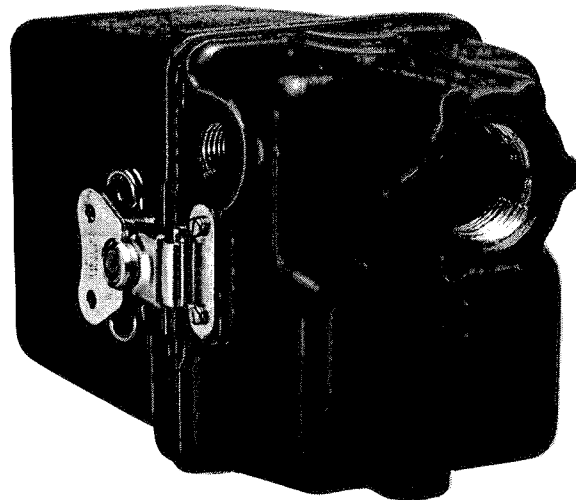
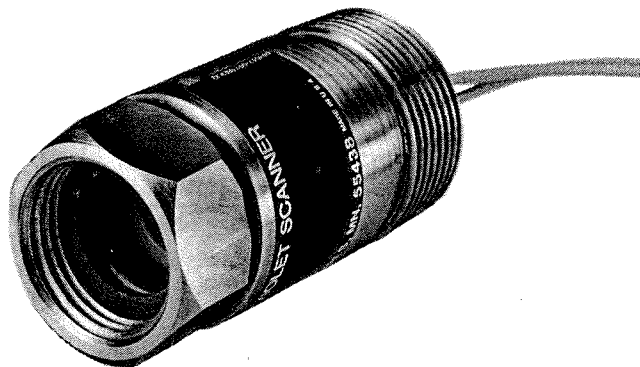

Figure 2—C9501N Ultraviolet Scanner
Figure 3—C9506M Ultraviolet Scanner
The C9501N Ultraviolet (UV) Flame Scanner (Figure 2) and the C9506M UV Flame Scanner (Figure 3) have proved to be exceptional choices for applications where burning fuel flames tend to be rich with ultraviolet radiation. (Refer to Table 1.) Radiation from hot refractory does not extend into the scanner's spectral range. As a result, the C9501N and C9506M Scanners are not sensitive to these forms of radiation.